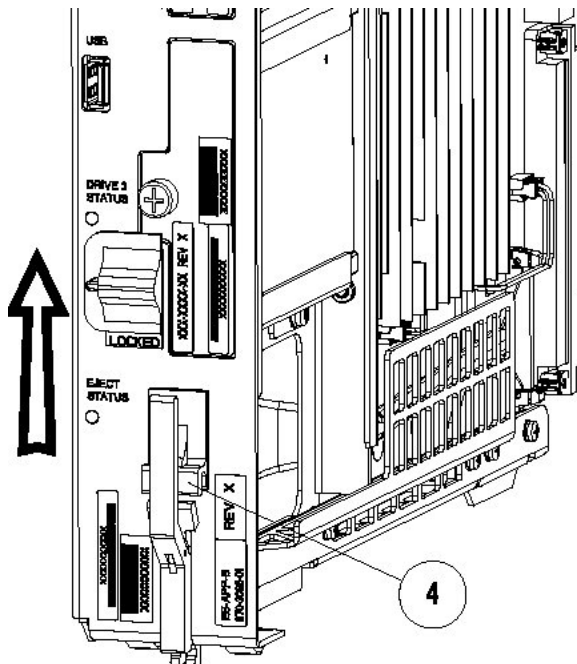

Figure 46: E5-APP-B Card Eject Hardware Switch, UNLOCKED
1. On the E5-APP-B card, slide the Ejector switch (4) up to the UNLOCKED position (see Figure 46: E5-APP-B Card Eject Hardware Switch, UNLOCKED).